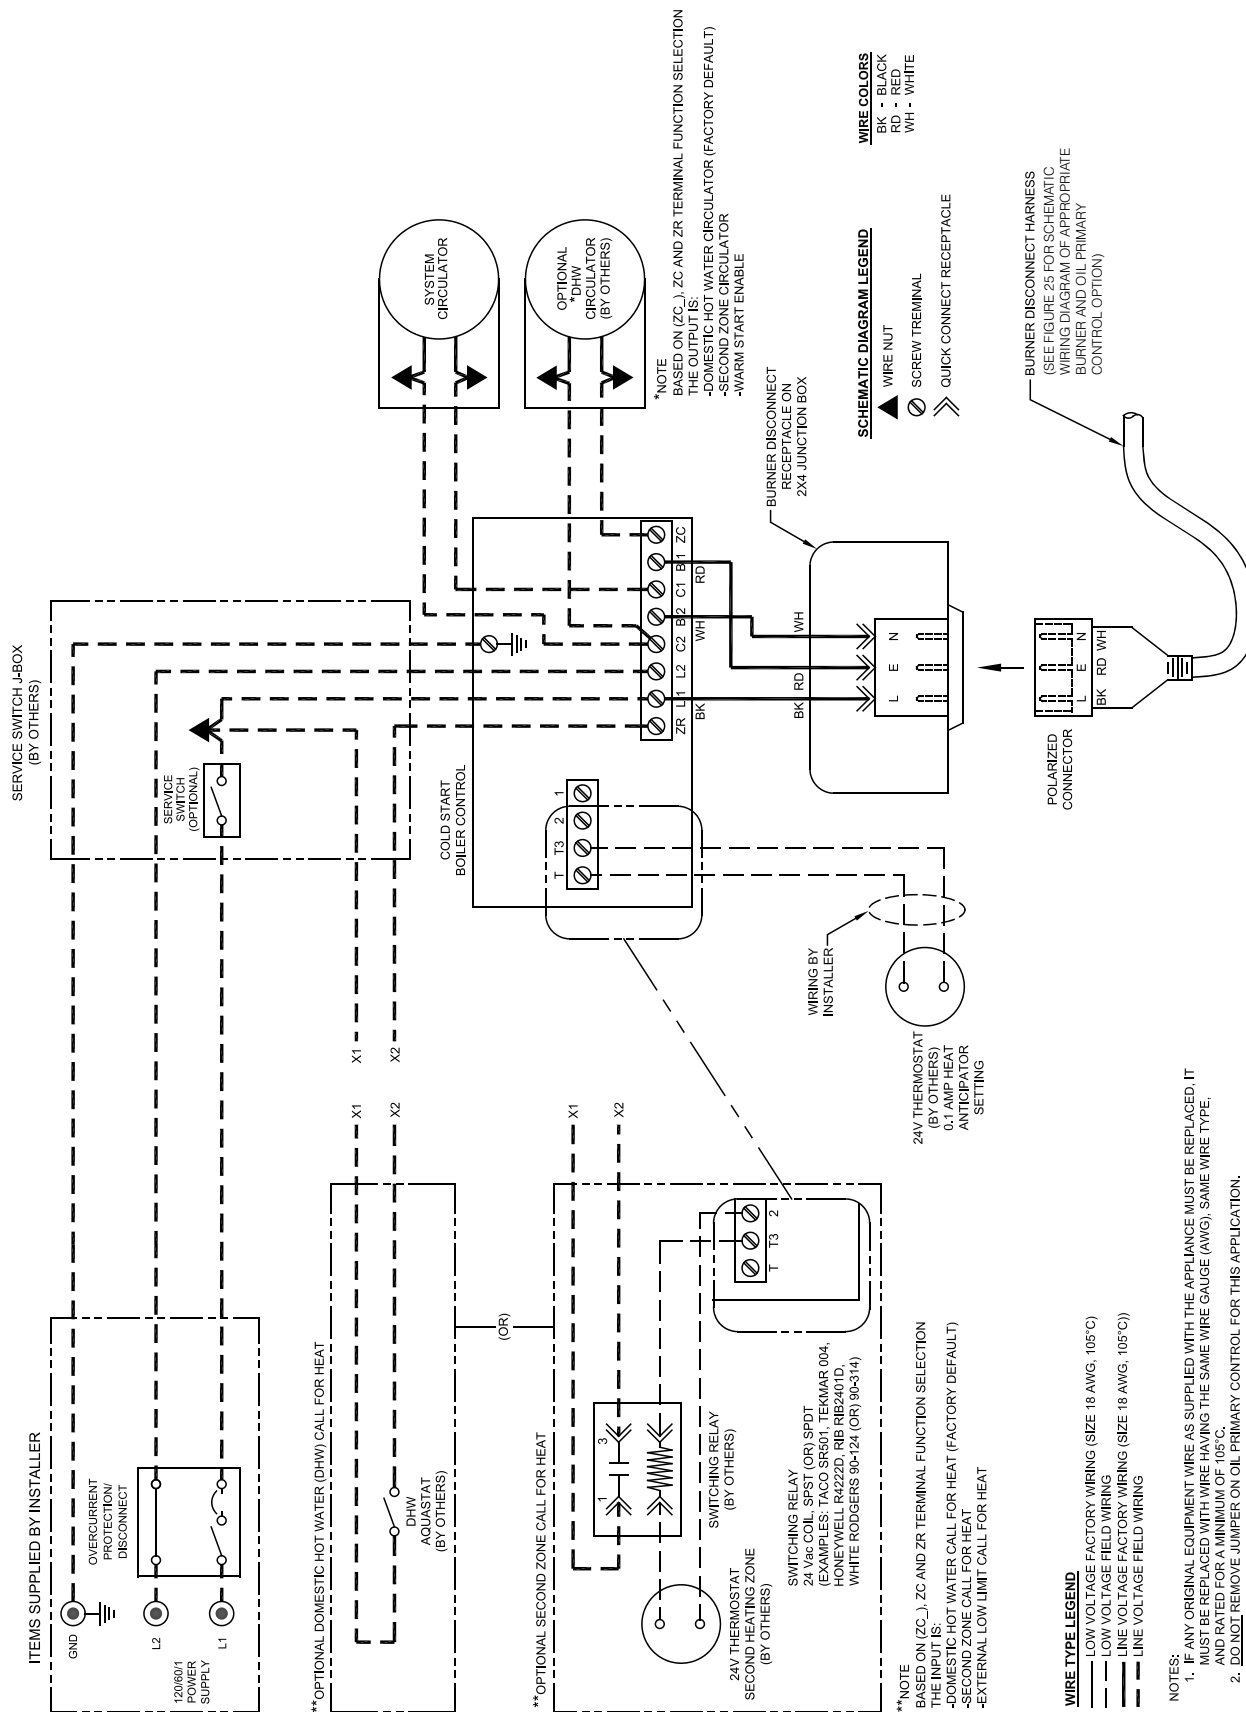

Figure 20A: Schematic Wiring Diagram, Water Boiler without Tankless Heater, Cold Start Control (All Burner Options)
8. Wiring should conform to Figures 20A through 23.
Heat Anticipator in Thermostat should be set to match the requirements of the control to which it is connected. See Figures 20A thru 23 for desired system and heat anticipator setting. If system tends to overheat above the thermostat's temperature setting, reduce heat anticipator setting by .1 or .2 amps. If system tends to short cycle without reaching desired room temperature, increase heat anticipator setting by .1 or .2 amps.